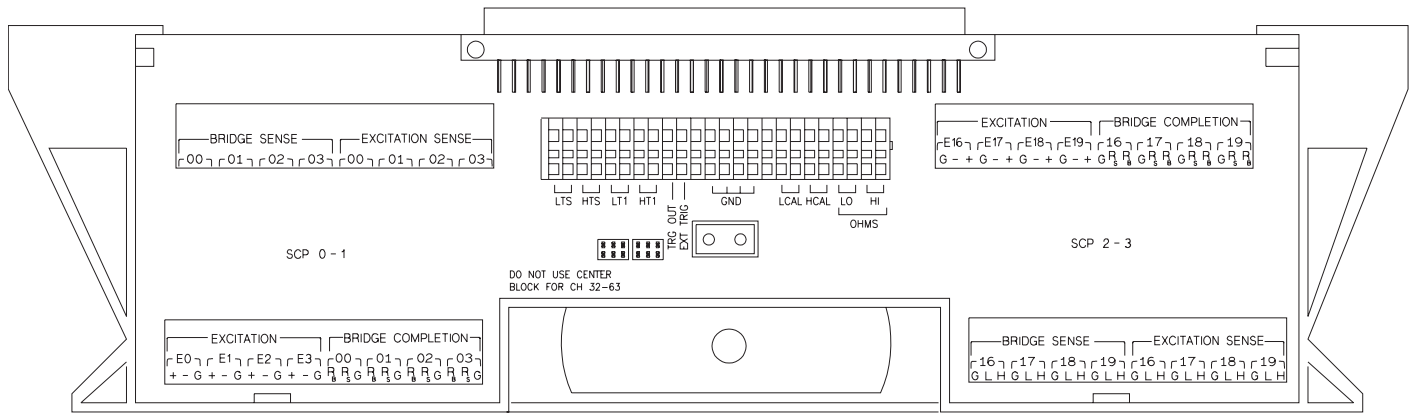

Figure 6 VT1511A B-size Terminal Module Connections (Ch 00-31)
- For Agilent/HP E1313 Terminal Modules, use stickers for VT1510A SCPs. The connections are shown in Figures 6 and 7.